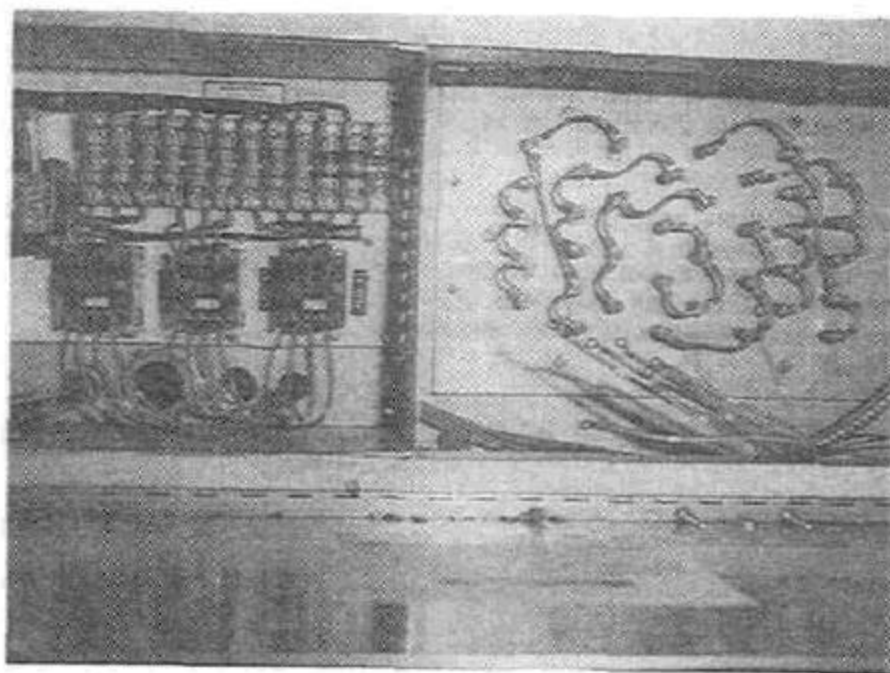

Figure 59. PS310/360 - Electrical Leads
2. Remove the 9 electrical leads going to the element bank, See Figure 59.